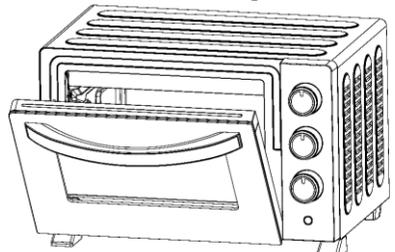

Fig. 7
10. If grilling or toasting, leave the oven door ajar (fig. 7).